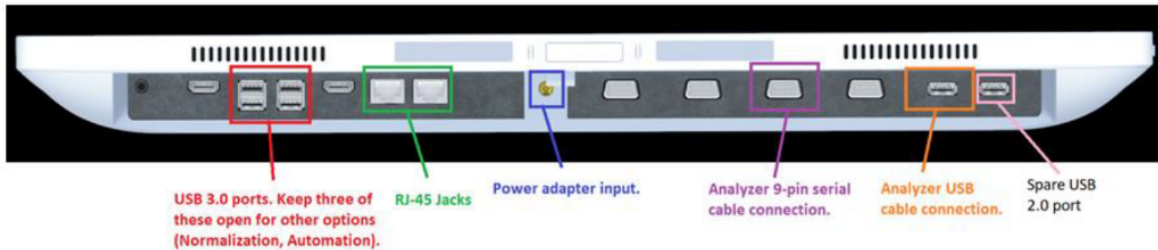

Figure 3 Controller ports (underside).
See **"Unpacking and Component Identification"** on page 14 to identify each cord, and refer to Figures 3 and 4 to identify the connectors.
(See Figure 3.)
- 3 A second cable (USB) connects the analyzer socket labeled "USB" to the USB port on the controller. This port must be used for proper functioning of the instrument and barcode reader. (See Figure 3.)